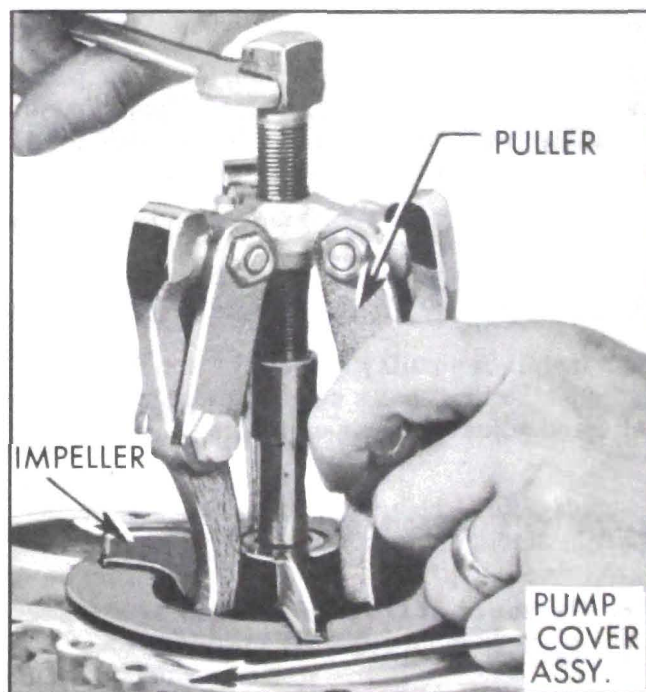

Figure 2-54—Pulling Water Pump Impeller
1. Pull impeller from pump shaft using care to avoid any end thrust on bearings. See Figure 2-54.